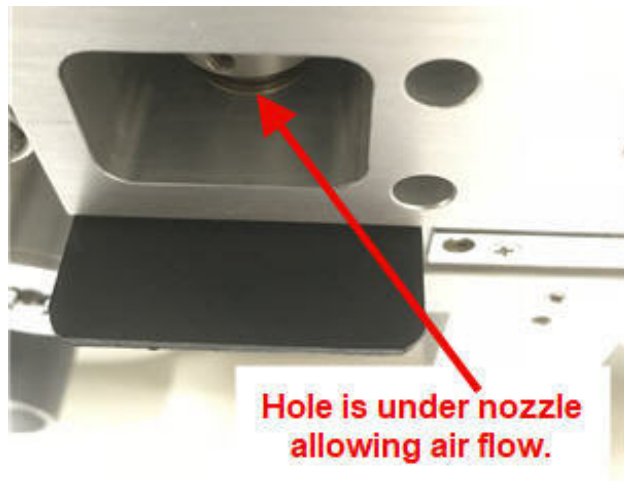

Figure 6-5 Nozzle Seal Tool with Hole Under the Nozzle
3. Remove the filter tape from beneath the nozzle and insert the Nozzle Seal Tool with the hole positioned beneath the nozzle. See Figure 6-5.
3. The Nozzle Seal tool may already be installed with the hole positioned beneath the nozzle (see Figure 6-5). If this is not the case, press the NOZZLE UP button to raise the nozzle (if needed), position the sealing tool in this configuration, and then lower the nozzle.